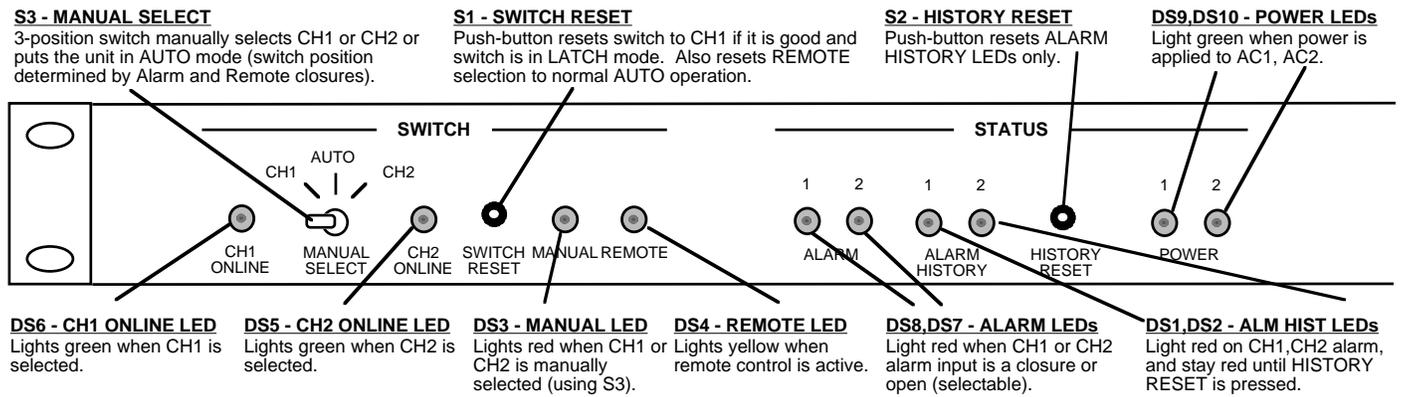

FIGURE 2.3 1582-152 Front Panel Controls and Indicators
Figure 2.3 shows the front panel controls and indicators.
1. Set the on board controls as desired (Tables 2.2, 2.3, Figure 2.3).
The following gives the switch mode settings of the on board controls that can be changed in the field with JP1, JP2, JP3, JP4; S4. (Figure 2.3). All shown with external **alarm = ground**.